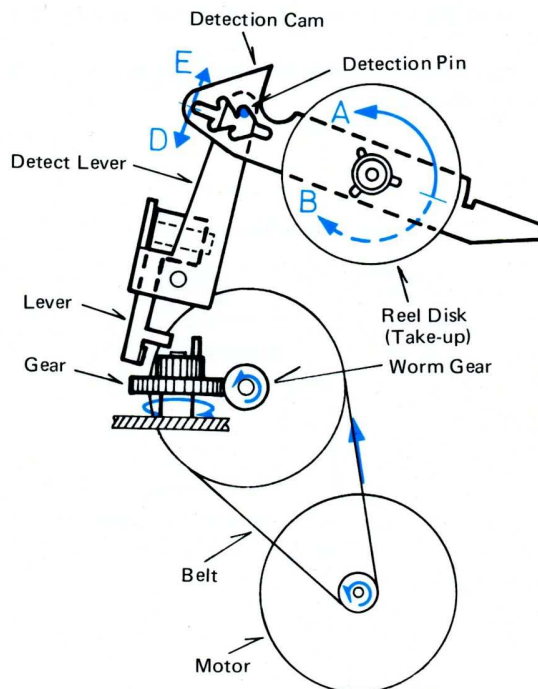

Fig. 32
- 1) The take-up reel disk turns to the A direction and the detection cam swings to the D direction as shown in Fig. 32.
1) The take-up reel disk turns to the **B** direction and the detection cam swings to the **E** direction as shown in Fig. 32.